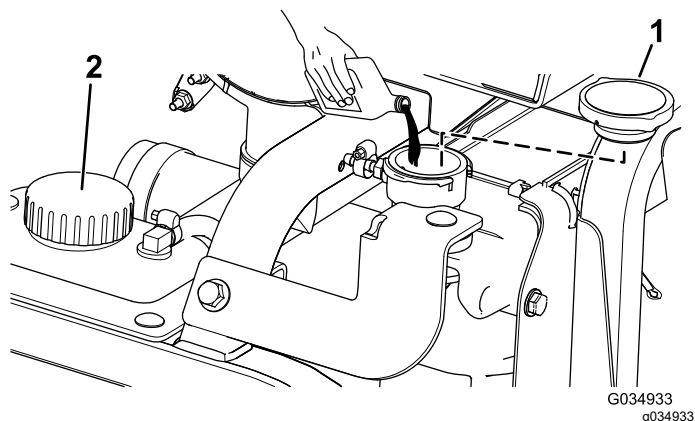

Figure 91
5. Fill the radiator with coolant until the coolant level even with the lip of the filler port (Figure 91).